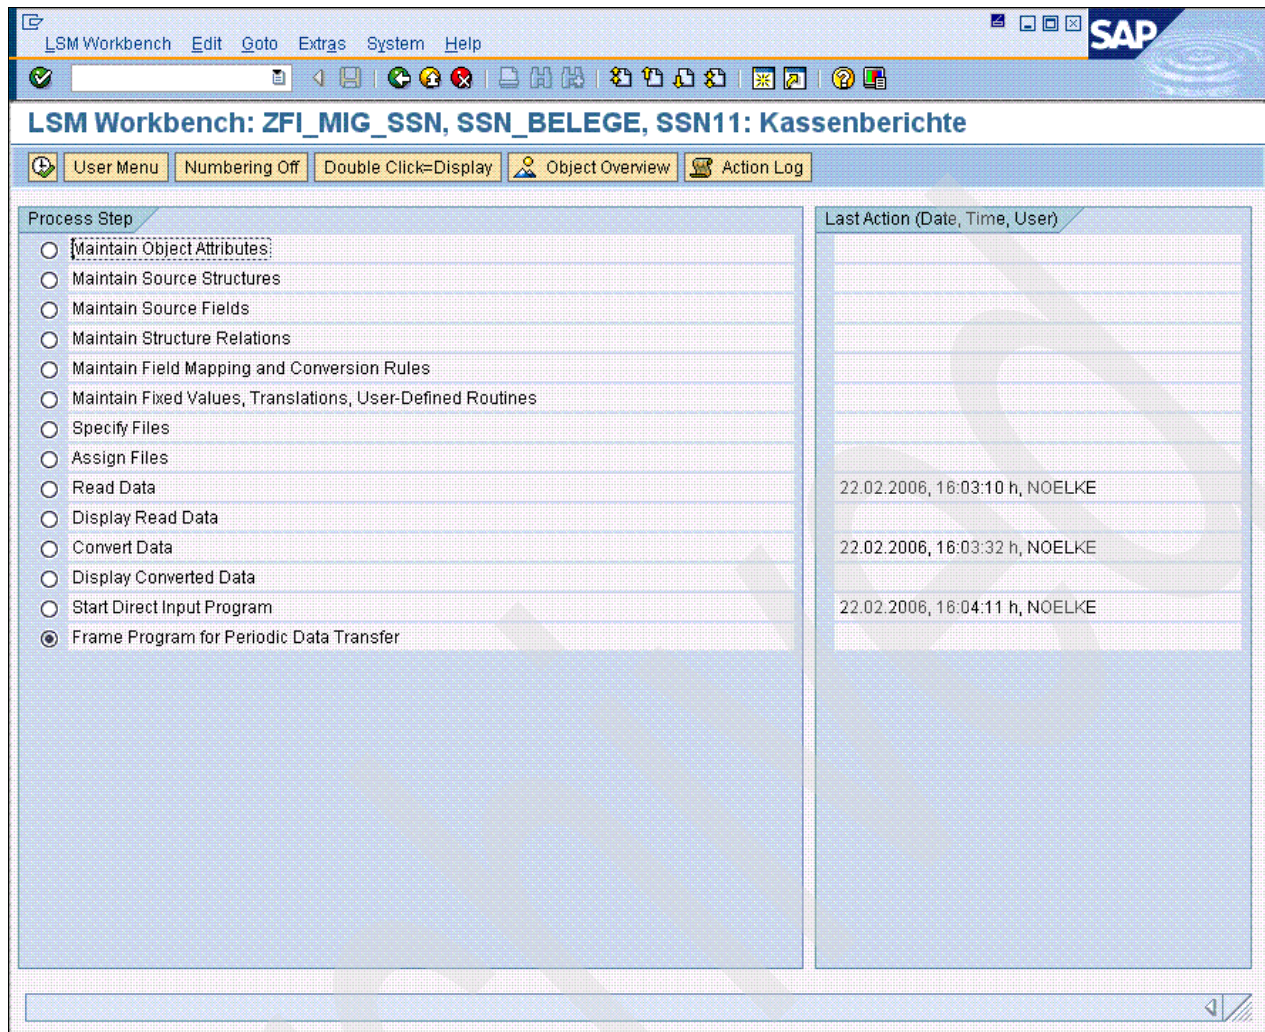

Figure 30-8 LSMW project steps
4. Select **Enter** or **Continue** to go to the interactive process guide after you select an object. This takes you through the individual steps of data migration. The interactive process guide is shown in Figure 30-8 on page 702.